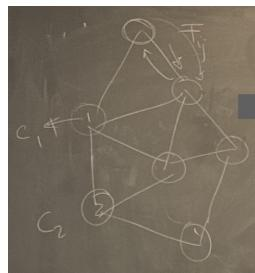

Figure 2.16: Simplified graph of a biochemical network.
- Suppose you have a (biochemical) network, and we control each transition between nodes locally (Figure 2.16).